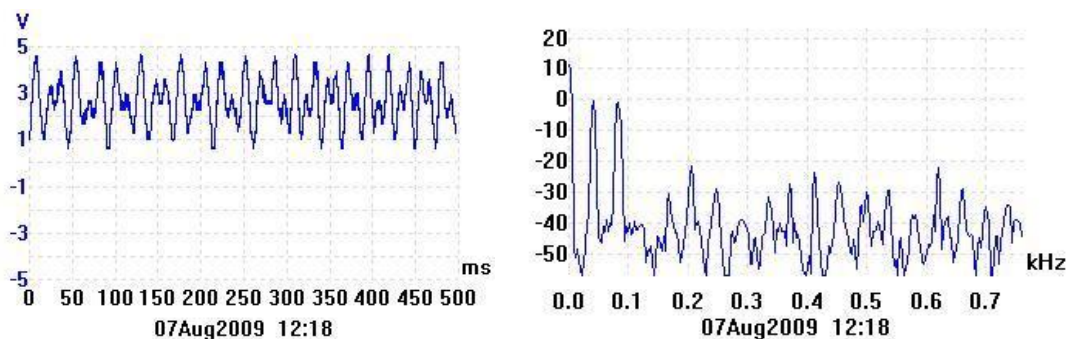

Figure 6.8. A song being played with a harmony and melody (see two peaks in the spectrum).
4. A picture of the output **on TExaS scope (like Figure 6.5)** ~~real dual-channel scope like Figures 6.8 6.9, or 6.10.~~